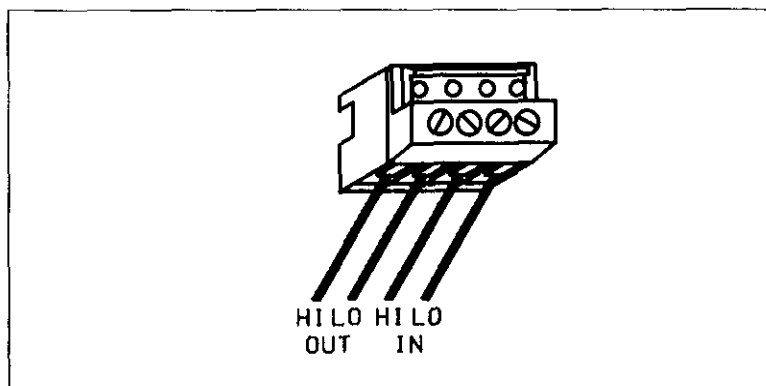

Figure 2-3. Quick Disconnect Terminal Block
2. Using an insulated screwdriver, connect the circuitry to the terminal block as shown in Figure 2-3. The screw terminals accept #14 to #26 AWG wire.